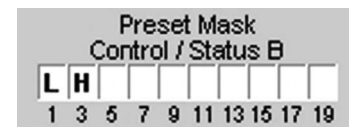

Figure 7.2. Preset Mask Control/Status B
A typical use for Preset Mask Control Status B is a room combining application which uses automatic partitions with sensors or triggers which set the pin to high (H) when the partition is closed and to low (L) when the partition is open. For example, if pin 1 is connected to the first partition and Pin 3 is connected to the second partition, then the Preset Mask Control Status B settings shown in Figure 7.2 will activate the preset when the first partition is open and the second partition is closed.